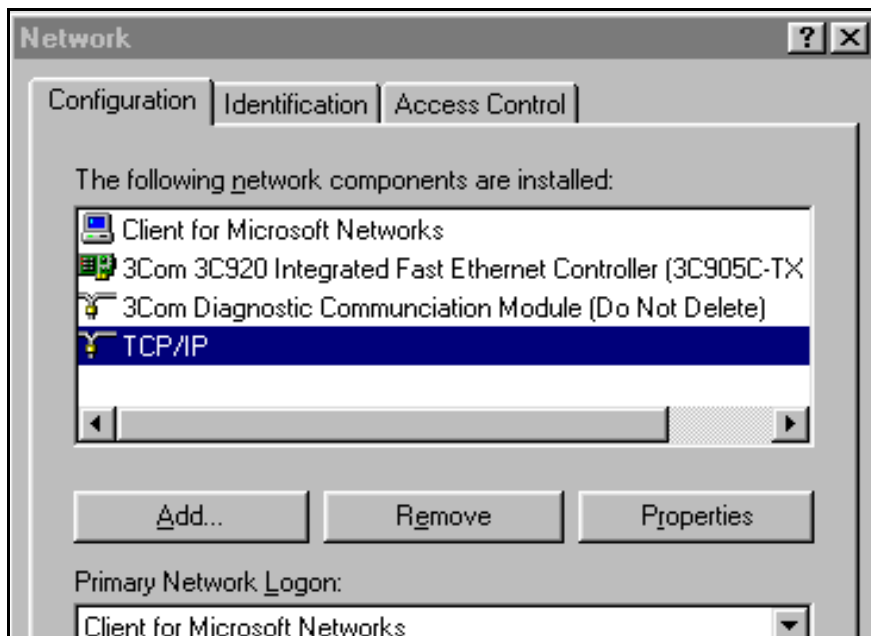

Figure 3-2 Network Window
3. At "Network" window (see Figure 3-2) click on *Configuration* Tab, scroll down to Laptop TCP/IP Ethernet Adapter, and select *Properties*.